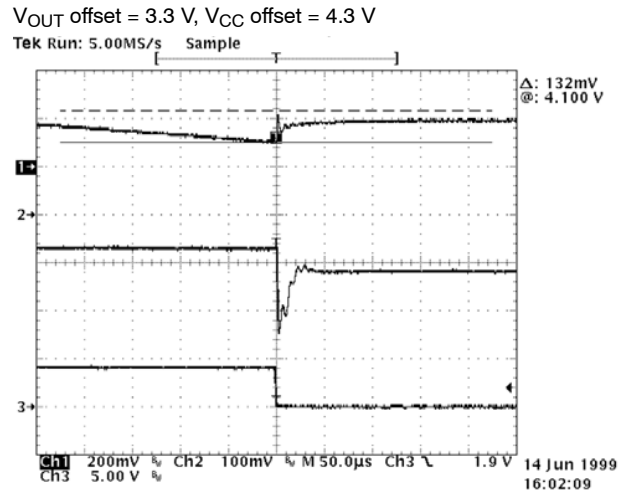

Figure 9. VCC Power-down (VAUX = 3.3 V)
**VCC Power-down (VAUX = 3.3V).** Figure 9 shows the output response as VCC approaches the deselect threshold